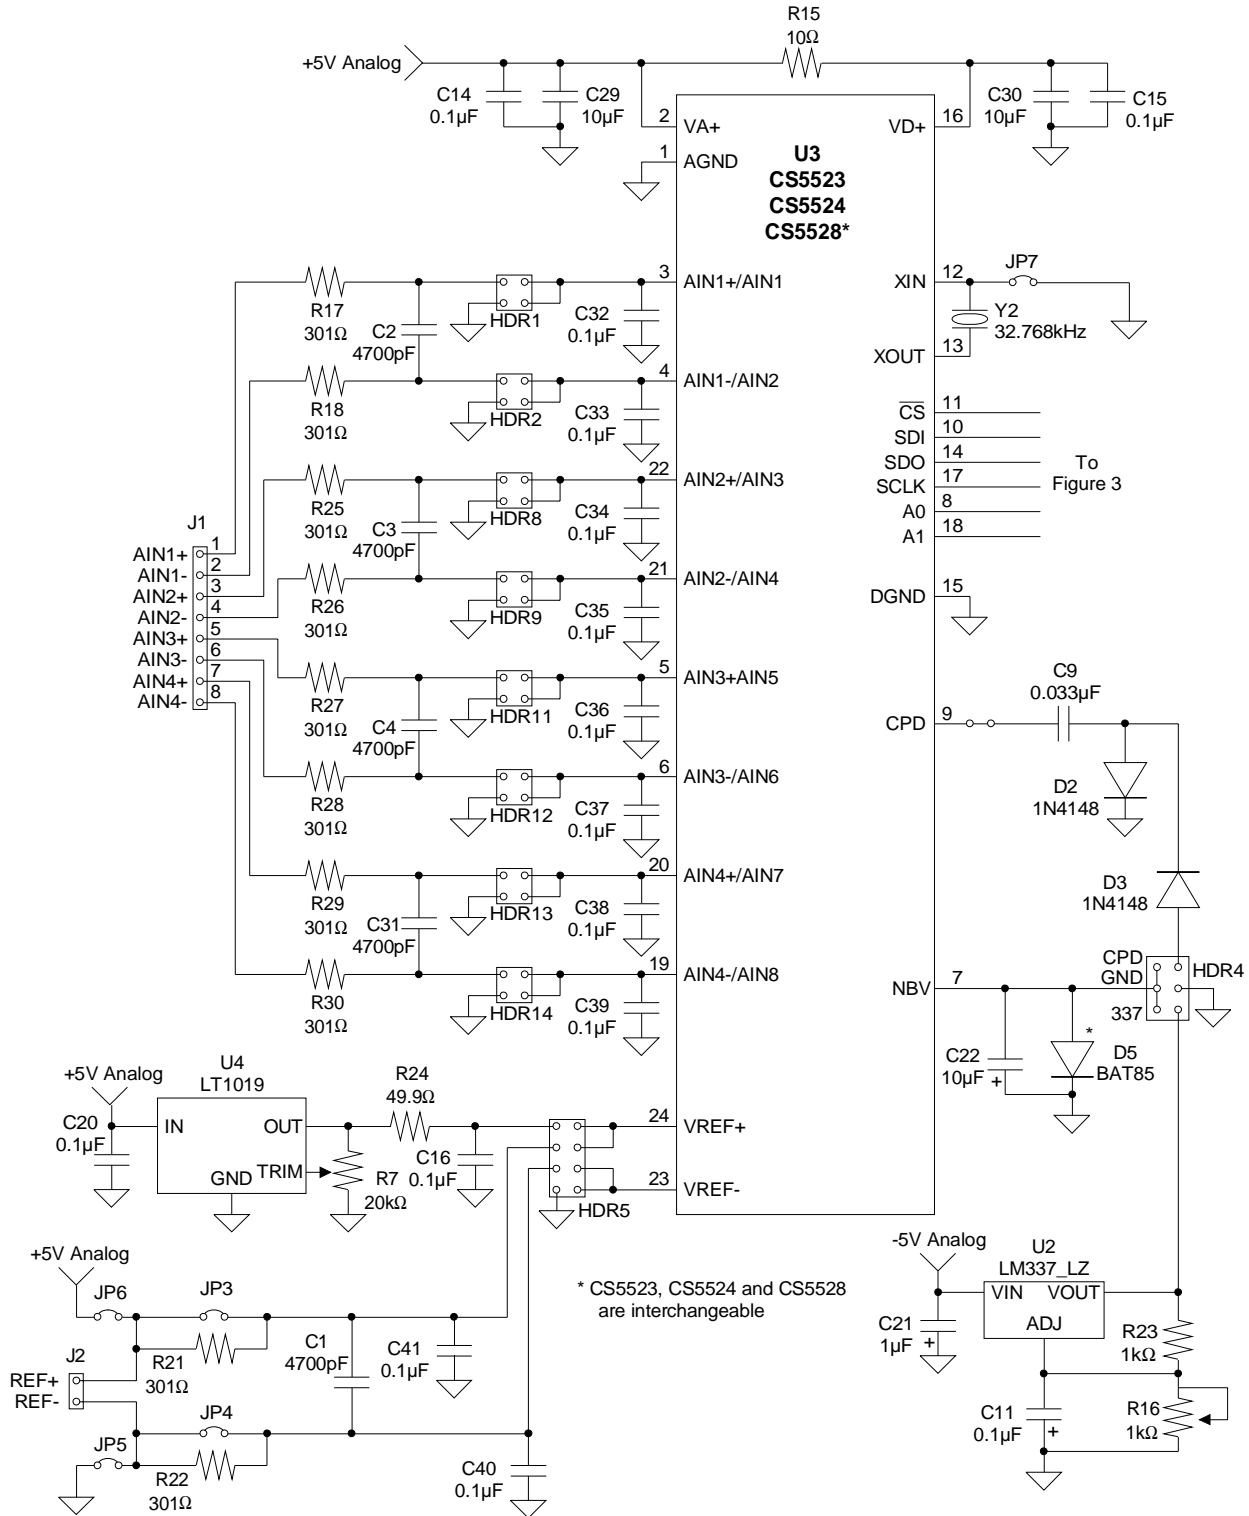

Figure 2. CS5524/28 Analog Section
- Figure 2. CS5524/28 Analog Section 6